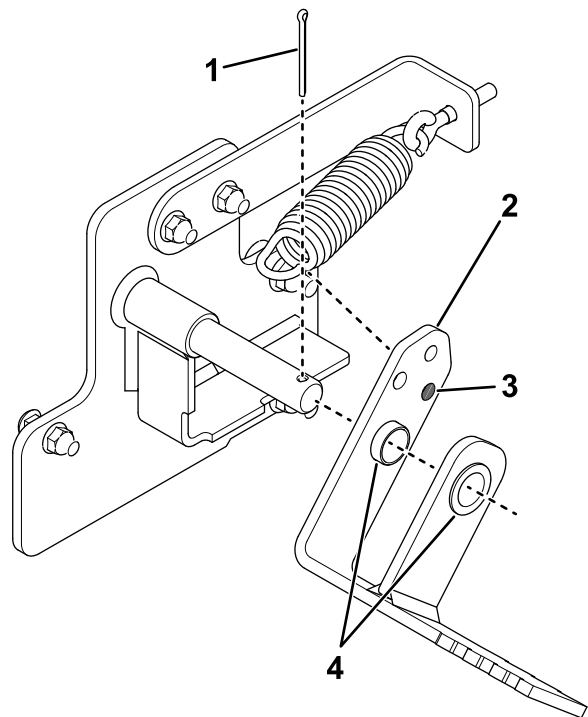

Figure 7
6. On the right side of the machine, install the parking-brake assembly to the machine using the same processes as 2 and step 3, and attach the spring to the parking brake as shown in Figure 7.